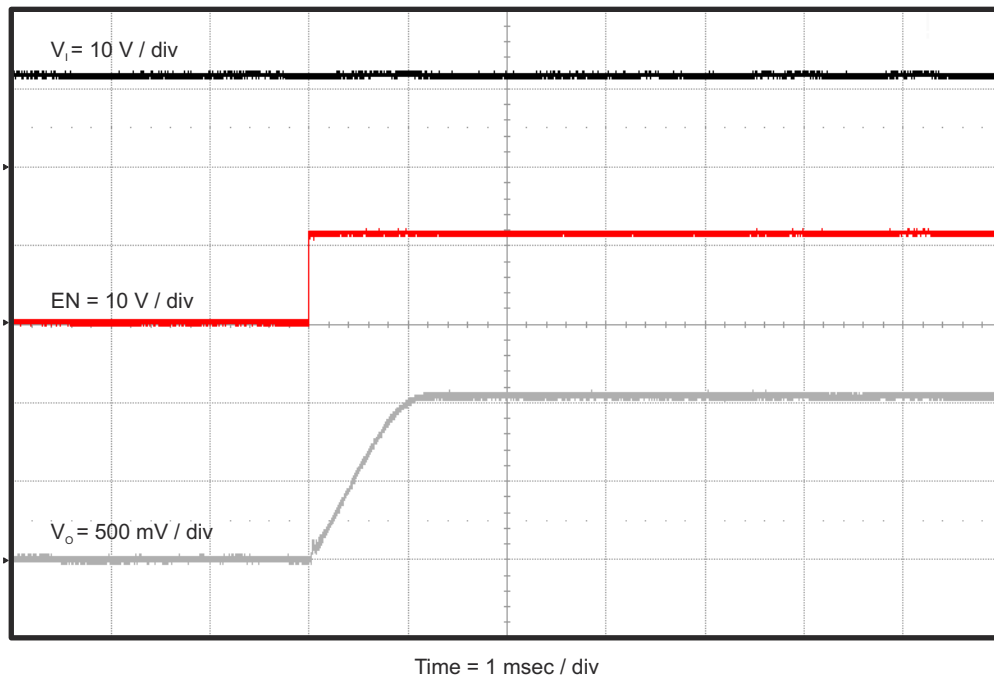

Figure 4-12. TPS563200EVM-652 Start-Up Relative to EN
The TPS563200EVM-652 start-up waveform relative to enable (EN) is shown in Figure 4-12. Load = 1 Ω resistive.